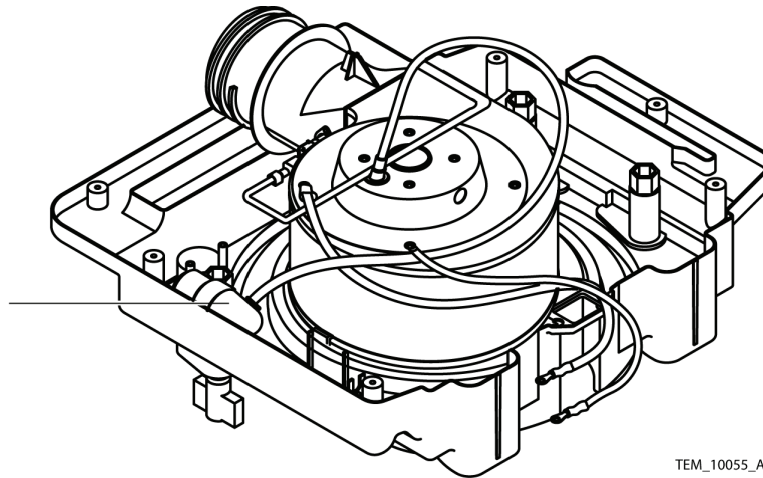

Figure 77. Capacitor Installation
38. Install the capacitor in the rear cover assembly and tighten the nut to 7 to 10 in/lbs (18 to 25 cm/kg). See Figure 77, item 1.
39. Install the cable tie around the capacitor. See Figure 77.